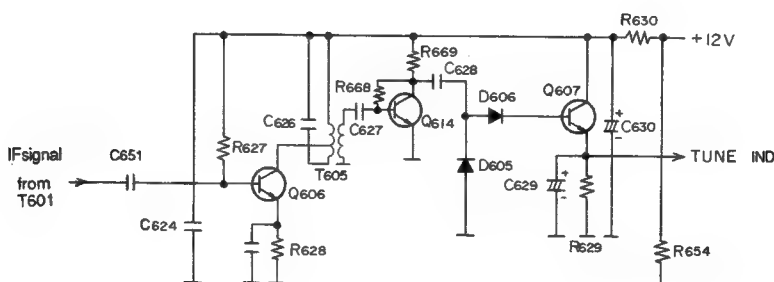

Fig. 50
- 5) If there is a difference between them adjust Heading ADJ control (VR157) on the Adjustment board of the CRT unit. If relative bearing difference is beyond adjustable range ($+1^\circ$) by VR157, adjust the position of the Magnetic Sensor Board (heading detector) as shown Fig. 50